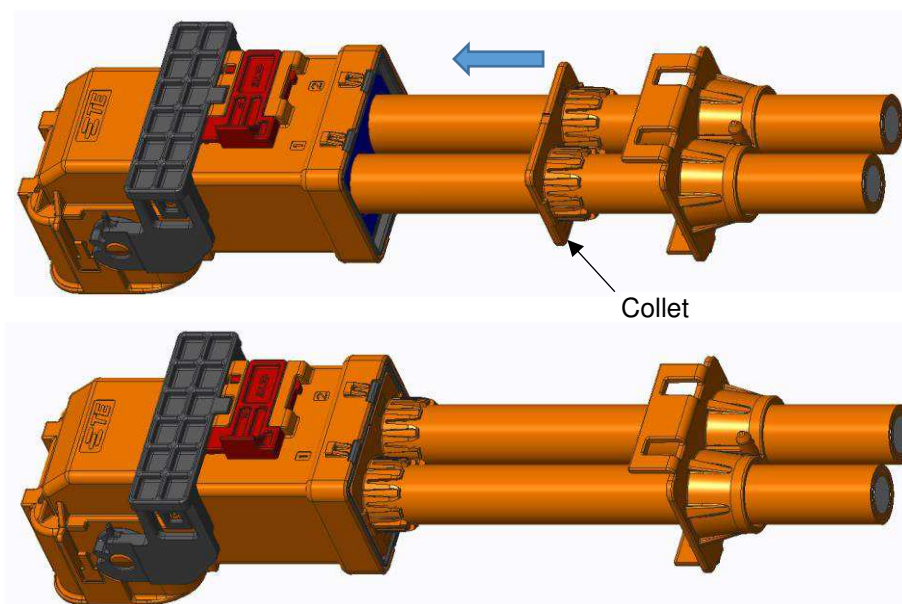

Figure 11: Collet Assembly
- Slide the collet forward on the cable and into the spacer seal as shown in Figure 11.